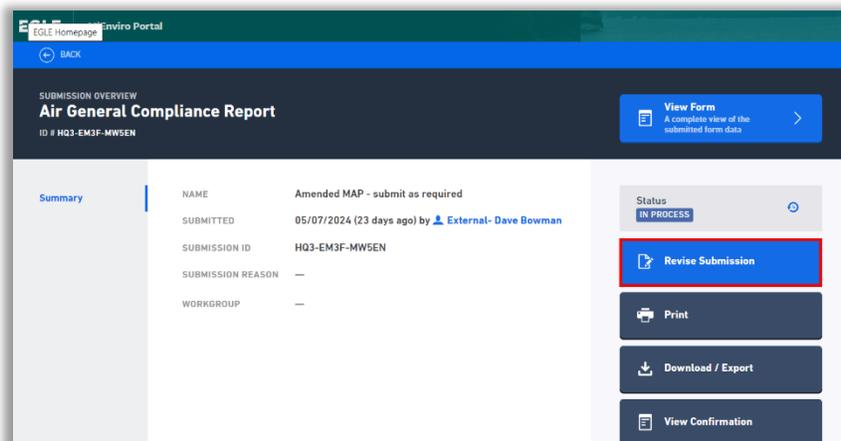

Figure 8-12 – Revise Submission
- Clicking **View** or **Revise** allows you to do several things. See Figure 8-12.